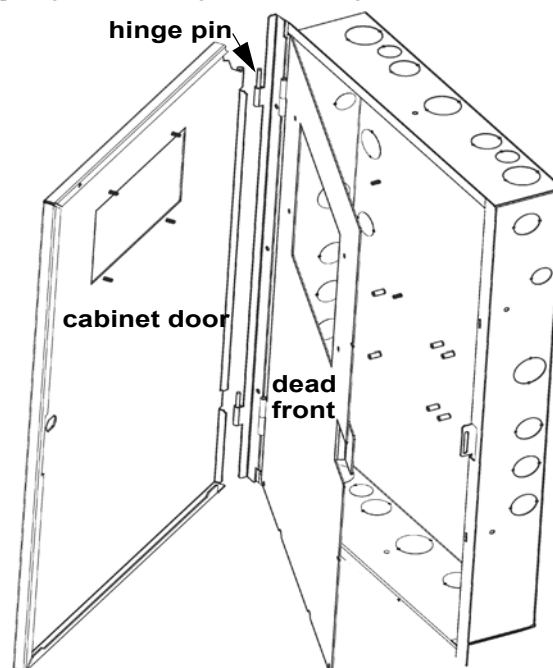

Figure 3 FIK-LOC Dead front
1. To remove the doors, slide the doors over the two pins in the hinge bracket of the base. Use the outer hinge pins for the door, and use the inner hinge pins for the dead front. See Figure 3.